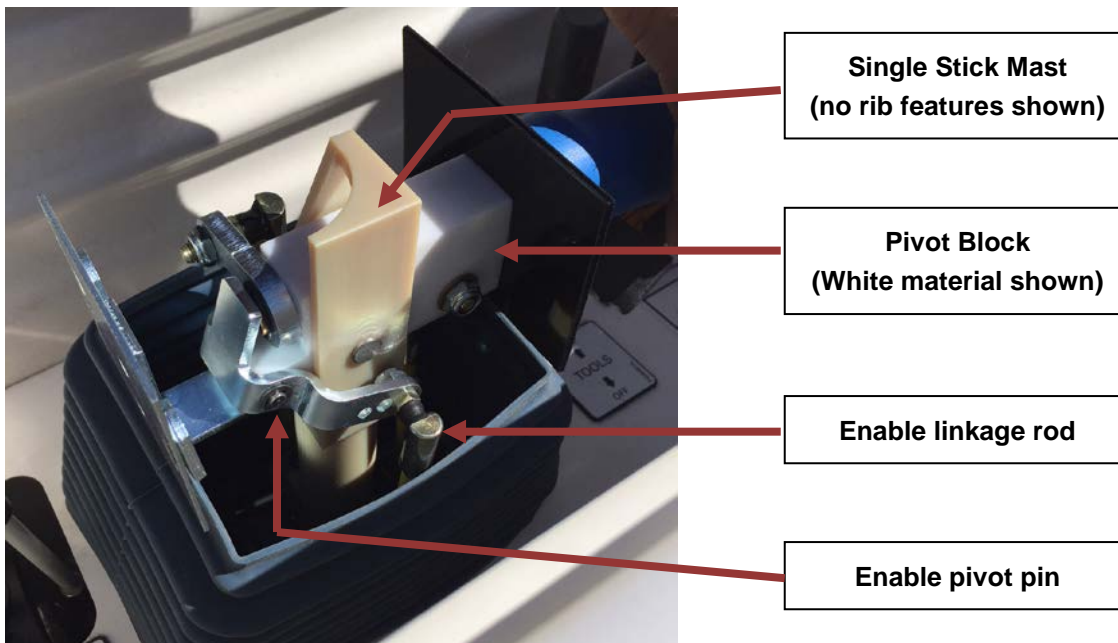

Figure 1 - Cover removed to show components
1. Remove the two plastic screws from the plastic cap, opposite side from the handle, of the single stick and remove the cap to gain access to the components shown in Figure 1. Inspect the Pivot Block and the Single Stick Mast for cracks.